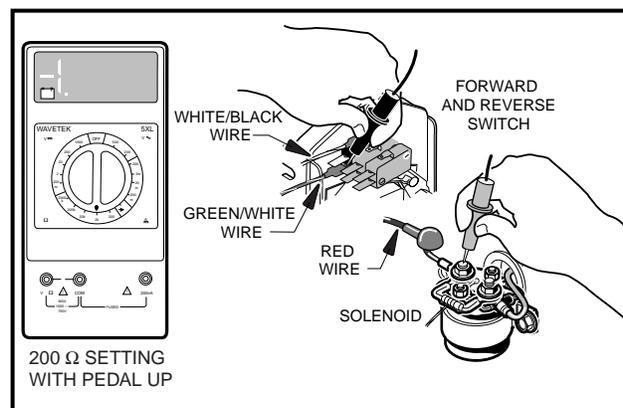

Figure 11-14 Test Limit Switch (Cont. Variable)
1. With batteries disconnected, controller discharged and the key switch in the ON position, connect the red lead of a multimeter (set for 200 ohms) to the large post of the solenoid (with 6 gauge red wire attached) and connect the black lead of the multimeter to the green/white wire from limit switch No. 1 on the Forward/Reverse switch (**Figure 11-14, Page 11-14**).